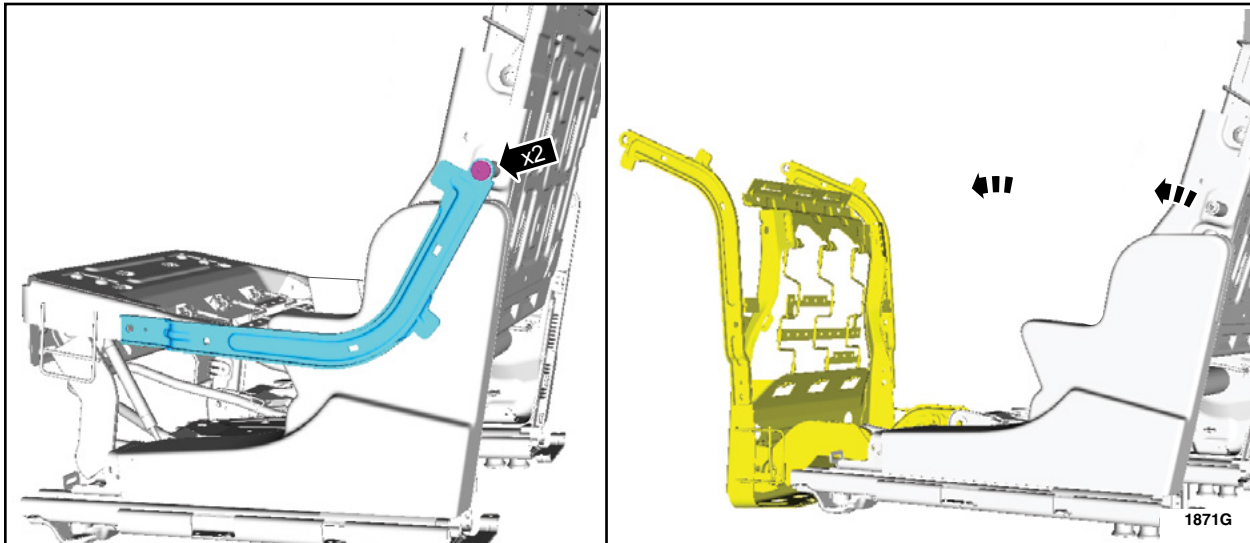

FIGURE 8
8. On both sides, remove the seat cushion frame pivot arm retainer from the seat backrest frame and position the seat cushion frame forward. See Figure 8.
22. Install the inner side seat shields and the retainers. See Figure 8.
24. Position the seat cushion frame rearward toward the seat backrest frame and install the retainers. See Figure 8.